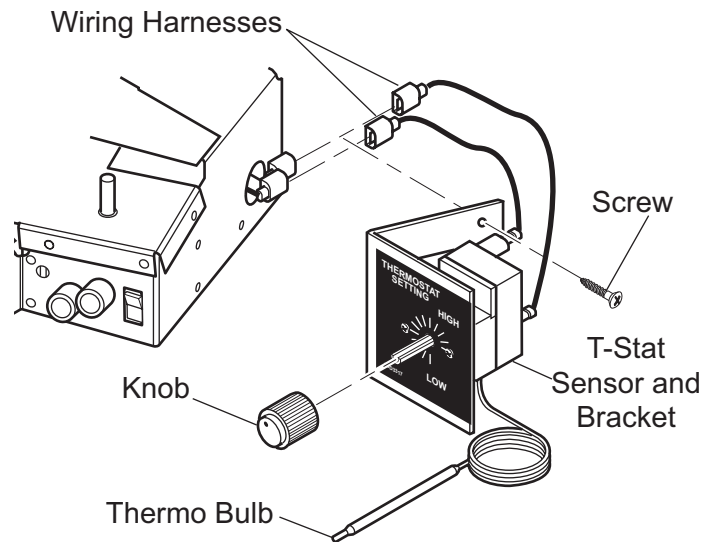

Figure 22 - Installing T-Stat Sensor to HVFL Base with Screw Provided
5. Route wiring harnesses through large hole on side of unit. Mount bracket to side of unit with screw provided. *See Figure 22.*
6. Attach wiring harness to either TP/TH and TH on control valve or to existing wiring harness with two (2) 0.250" male spade terminals for remote or t-stat option. *See Figures 22 and 23.*
7. Install knob to shaft of t-stat sensor. *See Figure 22.*